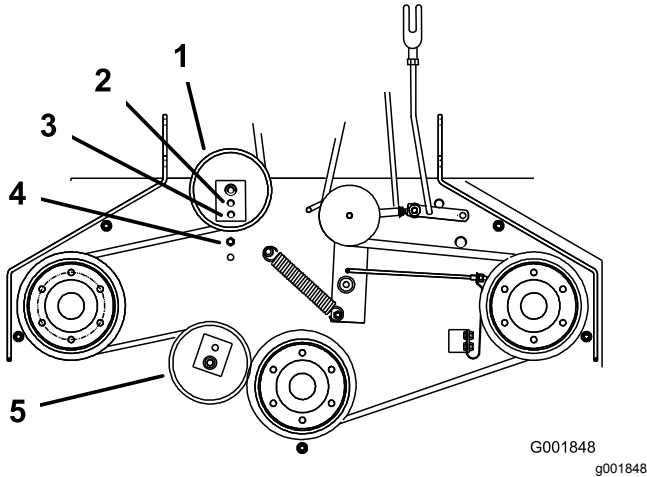

Figure 42
6. If there is no adjustment remaining in the turnbuckle and the belt is still loose, the rear idler pulley needs to be positioned to the middle or front hole (Figure 42). Use the hole that provides the correct adjustment.
7. When you move the idler pulley, you must move the belt guide. Move the belt guide to the front position (Figure 42).